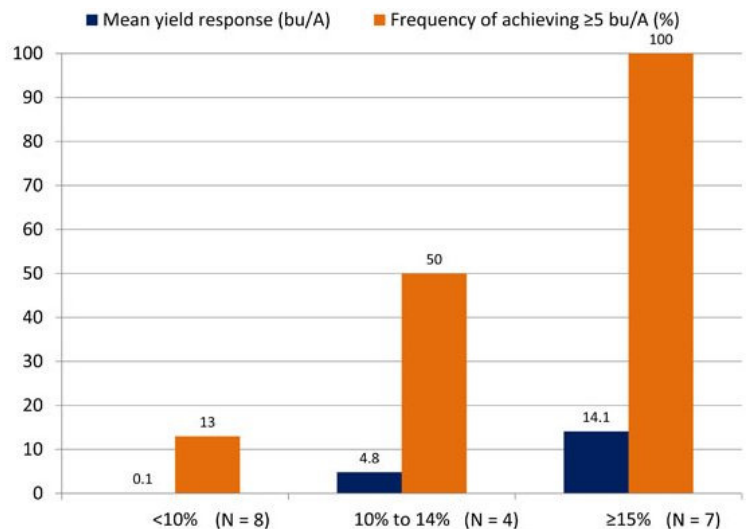

Figure 3. A summary of University of Illinois corn foliar fungicide trials conducted from 2008 to 2010. Foliar fungicides were applied between VT and R1.
A summary of these foliar fungicide trials is shown in Figure 3. On the horizontal axis, the final measurement of disease severity (the percentage of ear leaf with lesions) observed in the nontreated control is divided into three levels: less than 10%, between 10% and 14%, and 15% or greater. The number of trials for each category (N) is indicated, along with the mean yield response and the frequency of achieving a yield response of at least 5 bu/A.